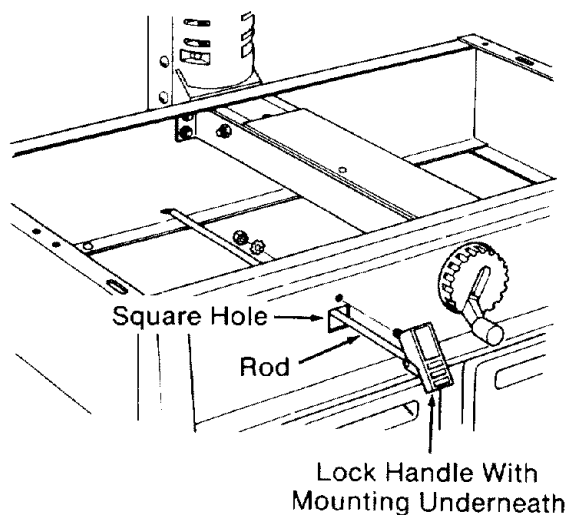

Fig. 75
2. Lift a *lock handle* and put the bolt through the hole in the *mounting plate* as shown. (Figure 75)
3. Slide the *rod* through one of the square holes in the front of the *saw*. Then put the hex head bolt through the round hole above it. (Figure 75)